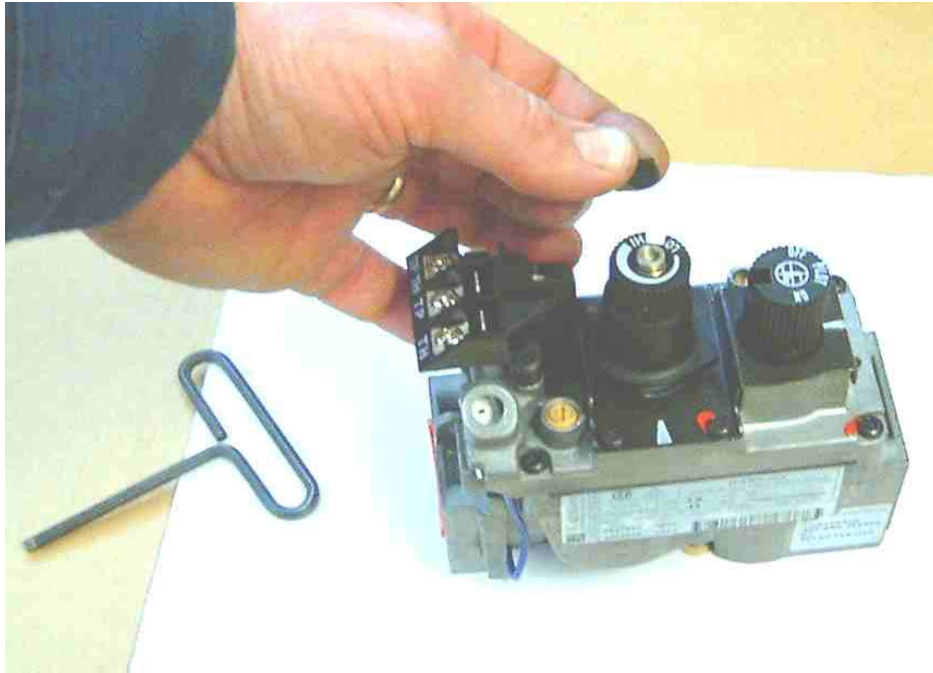

Figure 1 - Remove the cap by prying it up with finger.
1. If necessary, remove the valve from the stove. Working on the Hi/Lo knob, pry off the black cap on the face of the knob (see Figure 1).